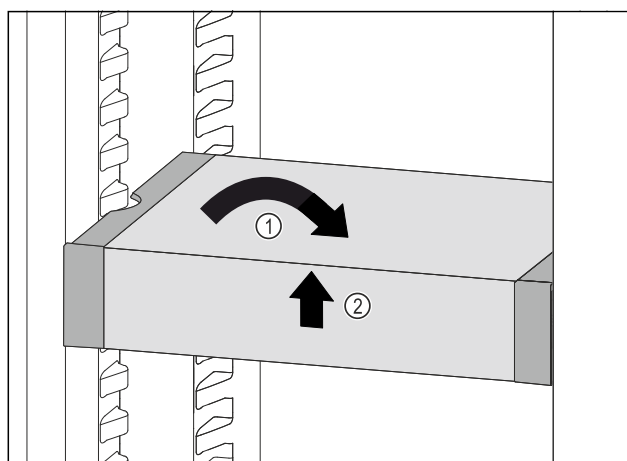

Fig. 85
- Set VarioSafe straight. Fig. 85 (1)
- Lift VarioSafe at the front. Fig. 85 (2)